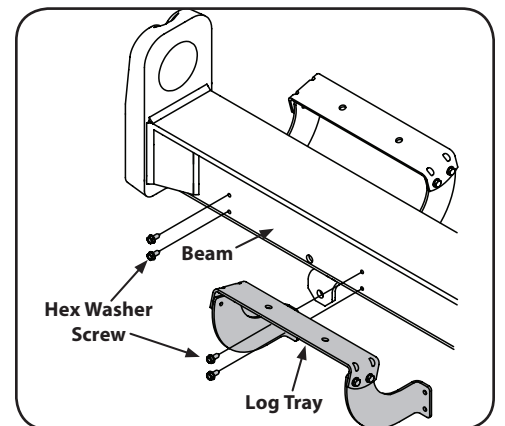

Figure 3-5
15. Disconnect the log tray from the beam on the side of the control valve by removing the two hex washer screws that secure it to the beam and the two hex washer screws in the beam. See Figure 3-5.